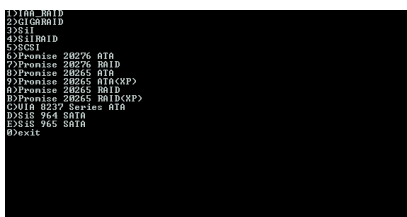
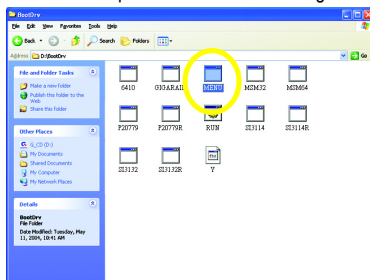

Figure 14
Figure 15
Step 2: When the controller menu (Figure 14) appears, remove the startup disk and insert the blank formatted disk. Select the controller driver by pressing the corresponding letter from the menu. For example, from the menu in Figure 14, press D to select **SiS 964 SATA**. Your system will then automatically zip and transfer this driver file to the floppy disk. Press 0 to exit when finished.
Use an alternative system and insert the GIGABYTE motherboard driver CD-ROM. From the CD-ROM drive folder, double click the **MENU.exe** file in the **BootDrv** folder (Figure 15). A command prompt window will open similar to that in Figure 14.